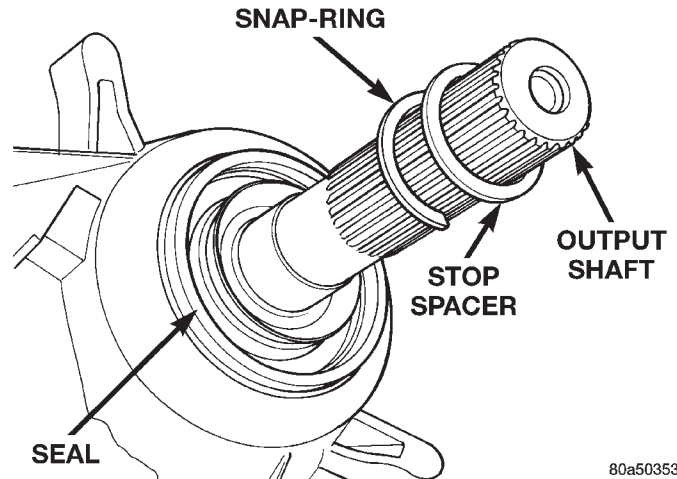

Fig. 9 Slinger Stop Spacer and Snap-ring
- (5) Remove slinger stop spacer and snap-ring from output shaft (Fig. 9).